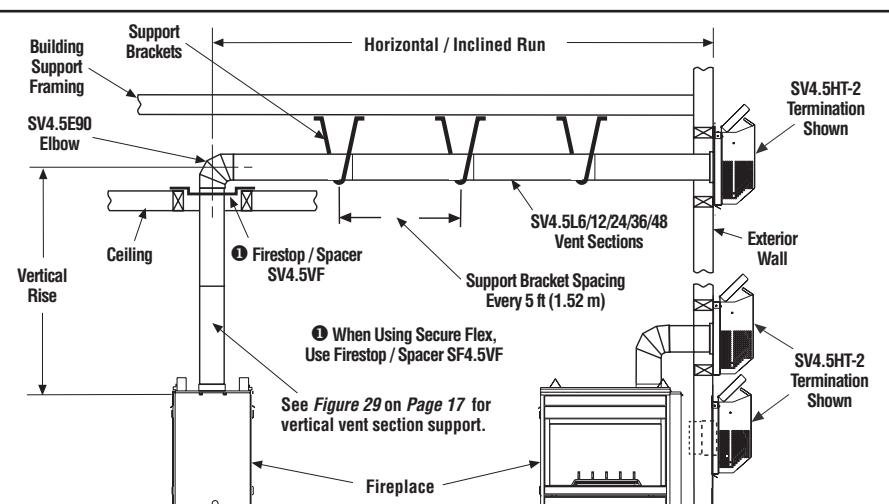

Figure 39 - TYPICAL HORIZONTAL VENT INSTALLATION
Figures 39, and Figures 42 to 47 on Pages 23 to 27 and their associated Horizontal Vent Table illustrate the various horizontal venting configurations that are possible for use with these appliances. **Secure Vent®** pipe applications are shown in these figures; **Secure Flex®** pipe may also be used. A Horizontal Vent Table summarizes each system's minimum and maximum vertical and horizontal length values that can be used to design and install the vent components in a variety of applications.
I. Continue installation of horizontal/inclined sections - Continue with the installation of the straight vent sections in horizontal/inclined run as described in **Step E**. Install support straps every 5 ft. (1.52 m) along horizontal/inclined vent runs using conventional plumber's tape. **See Figure 39, it is very important that the horizontal/inclined run be maintained in a straight (no dips) and recommended to be in a slightly elevated plane, in a direction away from the fireplace of 1/4" rise per foot (20 mm per meter) which is ideal, though rise per foot run ratios that are smaller are acceptable all the way down to at or near level. Use a carpenter's level to measure from a constant surface and adjust the support straps as necessary.**